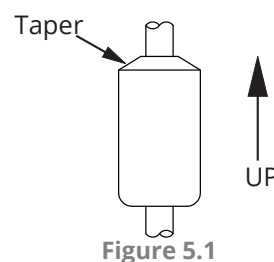

Figure 5.1
- The float(s) is/are oriented properly on the stem (See Figure 5.1 below). MPI-F floats are installed by customer.
- Slide floats onto stem. If using two floats, slide the lighter float on first. Tops of floats will be indicated by sticker, taper, or etching on float. (See Figure 5.1) After ensuring top of float is toward MPI-F sensor head, remove sticker(s).